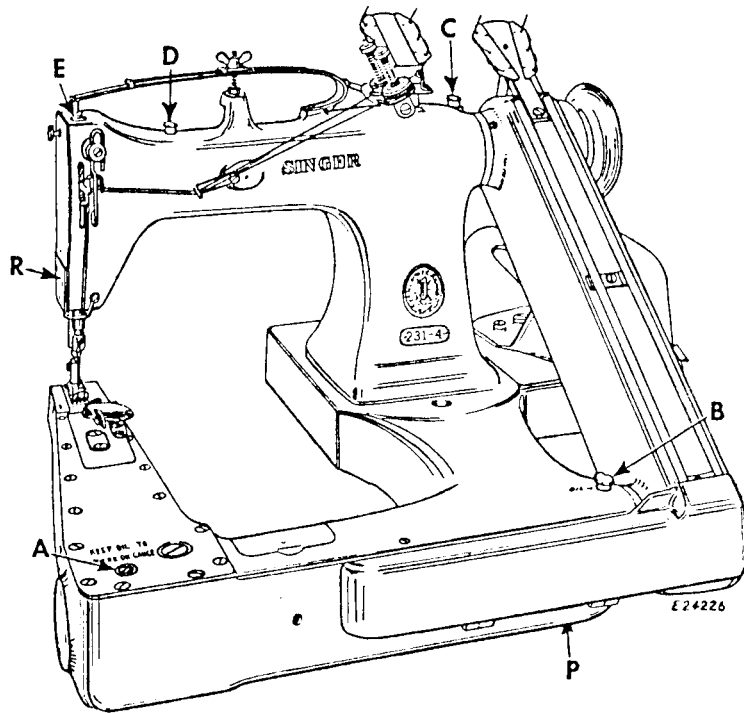

Fig. 2
1. After it is certain that the machine is set up so that its cylinder arm cover is level, lift out the gauge A, Fig. 2 and fill the arm reservoir to the level of the mark on the gauge. Run the machine a few minutes, then wipe off the gauge and recheck the oil level. THIS RESERVOIR SHOULD BE FILLED ABOUT TWICE A WEEK OR OFTEN ENOUGH TO KEEP THE OIL LEVEL UP TO THE MARK ON THE GAUGE.